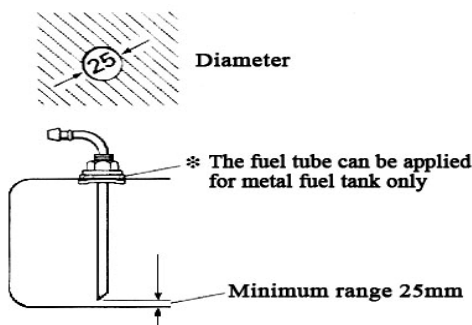

Fig. 18
4.4.6 Installation of Fuel Sucking Device (Fig.18)